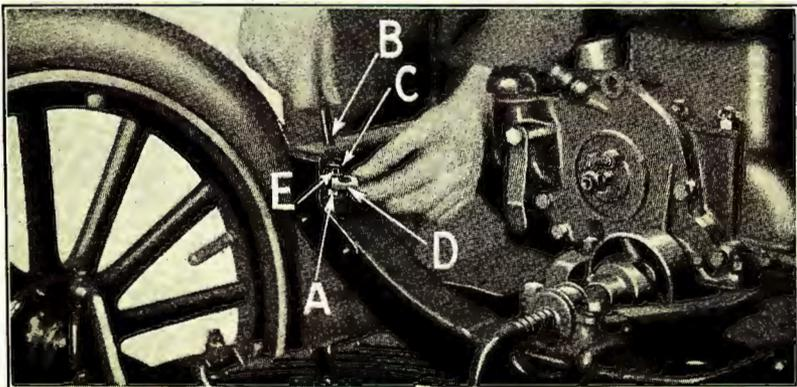

Fig. 89
- 108 Install front fender iron bolts, radiator springs, studs, and washer nuts** by inserting the two front fender iron bolts—bottom through bolt holes in bottom of frame (See "A" Fig. 89). Insert radiator studs "B" through stud holes in upper part of frame. Place radiator spring "C" over lower end of each stud. Position washer nut "D" under stud and run stud down through washer nut until a cotter pin can be inserted through hole "E" in stud.